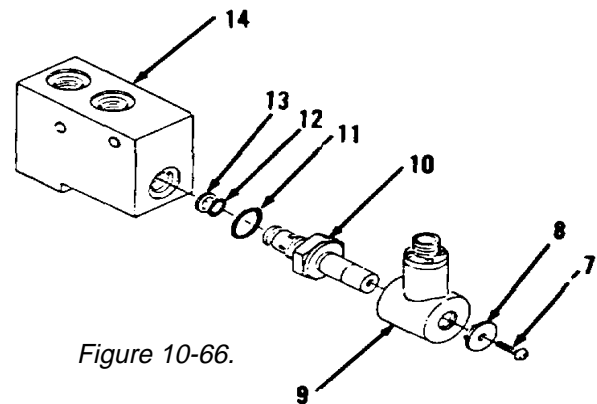

Figure 10-66.
2. Remove screw (7), washer (8), coil (9), cartridge (10) and seals (11, 12 and 13, Figure 10-66). Discard seals (11, 12 and 13).
1. Install new seals (13, 12 and 11), cartridge (10), coil (9), washer (8) and screw (7) in body (14, Figure 10-66).